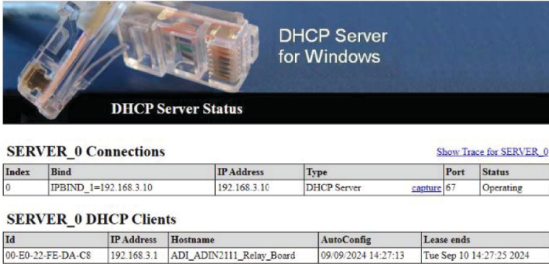

Figure 11. DHCP Server Status
- 7. Right-click the tray icon in taskbar and click **Open Status**, the **DHCP Server Status** window appears, as shown in Figure 11.